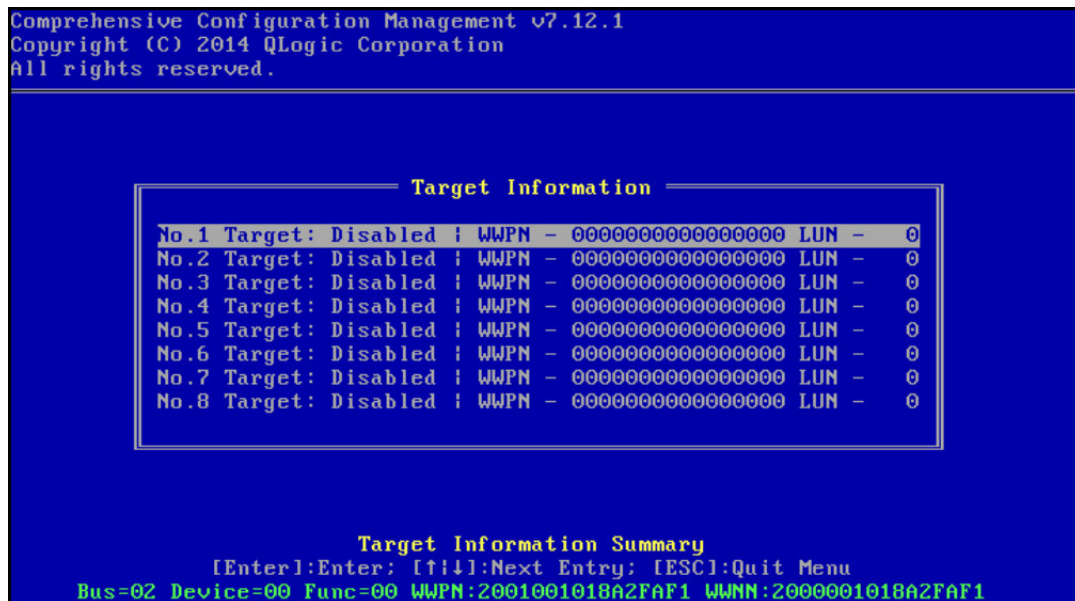

Figure 13-5. CCM Target Information
5. Configure the boot target and LUN. From the **Target Information** menu, select the first available path (Figure 13-5).